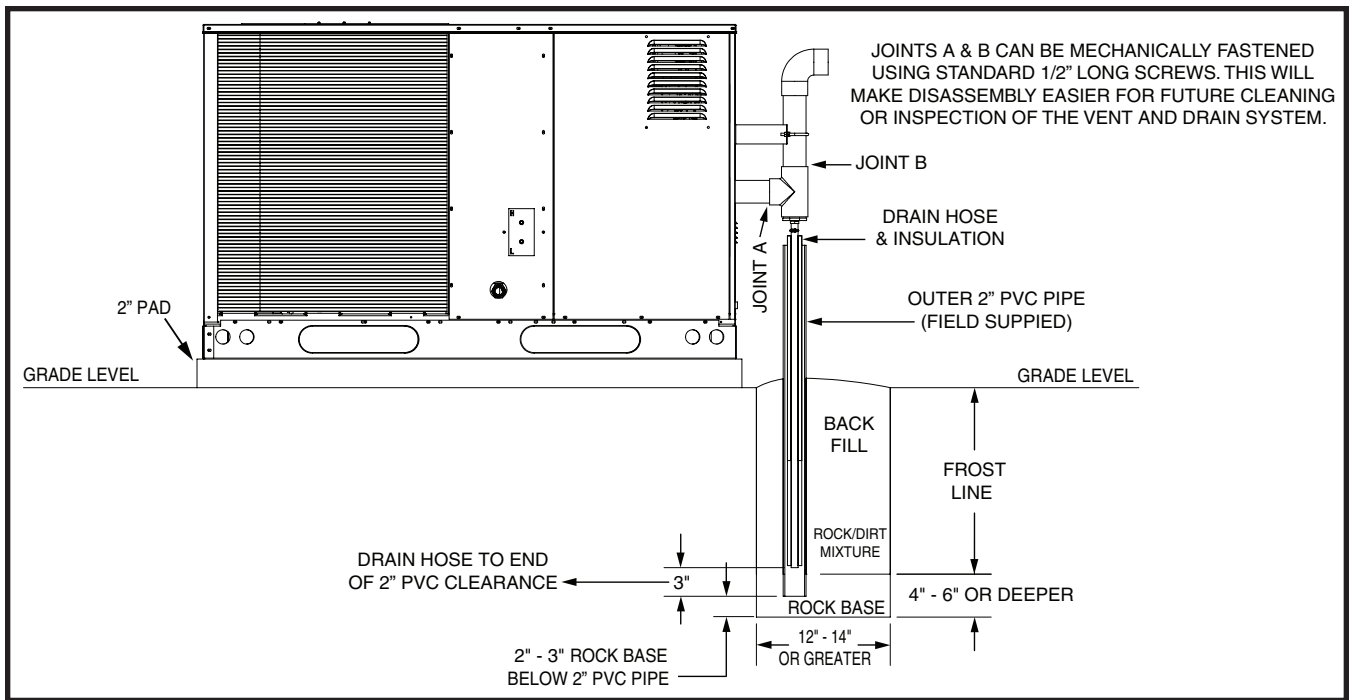
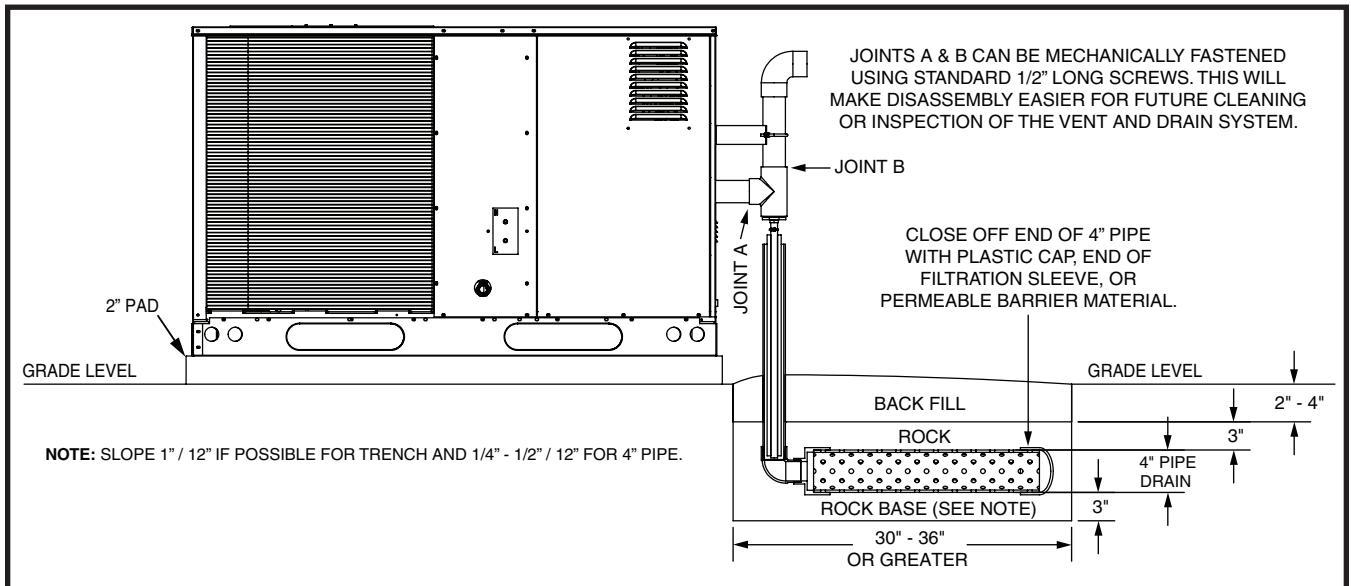

Figure 22. Condensate Disposal Using A Vertical Drainage Pit
Figure 23. Condensate Disposal Using A Horizontal Drainage Trench
Vertical pit should be approximately 12"-14" in diameter (or larger) for installation of the rock base and vertical piping system to allow for proper drainage with a depth of 4"-6" below the regional frost line if possible. See Figure 22 \(page 46\).
- Glue or use two 1/2" long screws (field supplied) to secure the 2" PVC Tee to the unit horizontal vent pipe. See Joint A in Figure 22. **NOTE:** Fastening the Tee to the horizontal vent pipe with 1/2" screws will make disassembly easier for future cleaning or inspection of the drain / vent system.
3. Measure and cut a length of 2" PVC that extends vertically from the bottom of the 3/4" drain fitting at the bottom of the tee to the 2" elbow/reducer assembly resting on the rock base as shown in Figure 23 \(page 46\).
11. Glue or use two 1/2" long screws (field supplied) to secure the 2" PVC Tee to the unit horizontal vent pipe. See Joint A in Figure 23. **NOTE:** Fastening the Tee to the horizontal vent pipe with 1/2" screws will make disassembly easier for future cleaning or inspection of the drain / vent system.
5. Cement or mechanically fasten the assembly (with 1/2" long screws) into the top of the tee. Verify the outlet is perpendicular to the unit. See Joint B in Figure 22 and Figure 23.